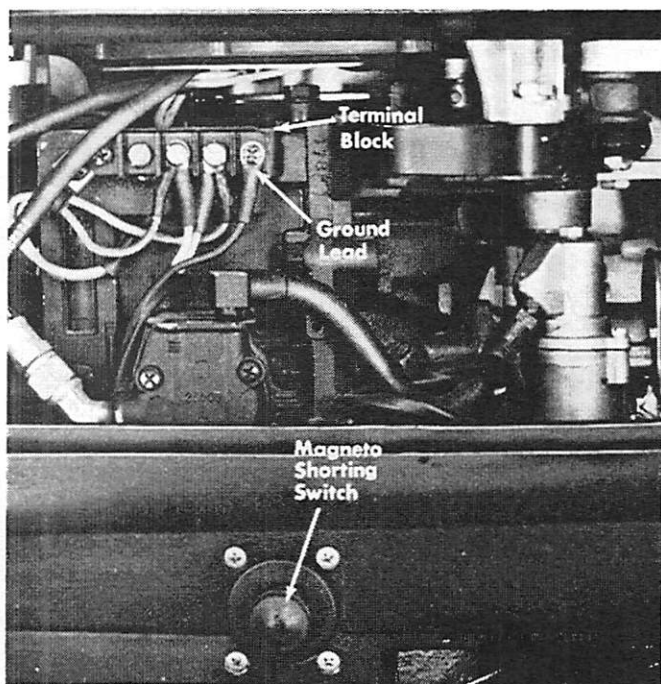

Figure 1. Magneto Shorting Switch Assembly
2. Disconnect magneto shorting switch leads from terminal block (Figure 1) and remove switch from bottom cowl.
6. Place magneto shorting switch in position and secure with 4 screws. (Figure 1)
7. Attach magneto shorting switch leads to terminal block as shown in Figure 1.
NOTE: Black lead is ground and must be attached as shown in Figure 1.